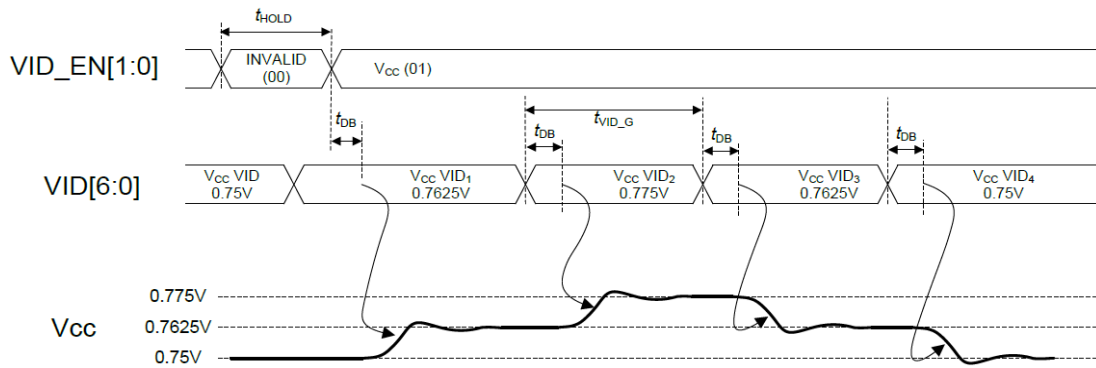

Figure 13. Dynamic VCC Timing Diagram
Figure 13 shows how the VCC output voltage can change during normal runtime operation when the VIDEN signals are set to VCC (01). If the VIDEN signals are set to VCC (01), the VCC regulator must monitor the VID signals, latch any changes, and change the output voltage setting accordingly. When the CPU is dynamically changing the VID setting for the VCC regulator during normal operation, it will only change the VID combination by 1 step, which corresponds to a voltage step of $\pm 12.5\text{ mV}$. During these changes, the VCC regulator must follow the 25 mV/ms slew rate specification.